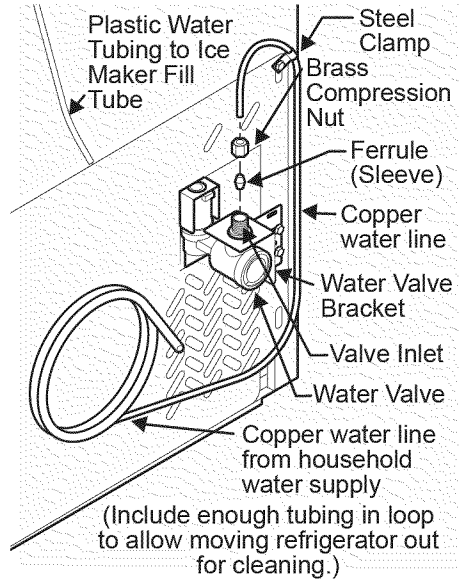

Figure 1
4. If you use copper tubing - Slide brass compression nut, then ferrule (sleeve) onto water supply line. Push water supply line into water valve inlet as far as it will go ($\frac{1}{4}$ inch/6 mm). Slide ferrule (sleeve) into valve inlet and finger tighten compression nut onto valve. Tighten another half turn with a wrench; DO NOT overtighten. See Figure 1.